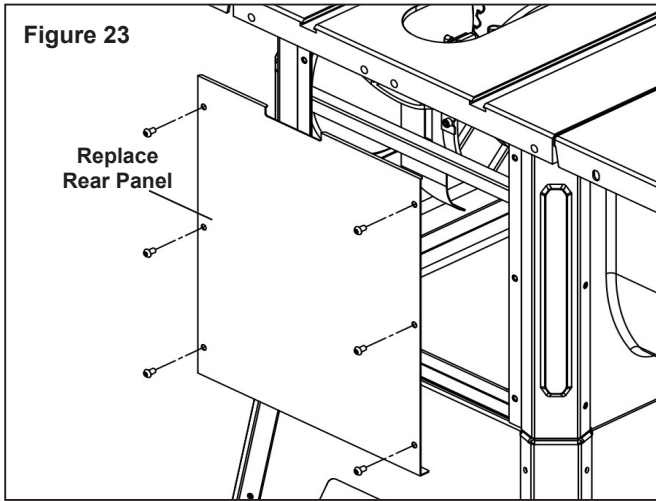

Figure 23
- To allow for attachment of rear rails, loosen and remove the six socket pan head screws and back panel. Figure 23, page 11.
- Replace back panel of the cabinet. Figure 23, page 11.